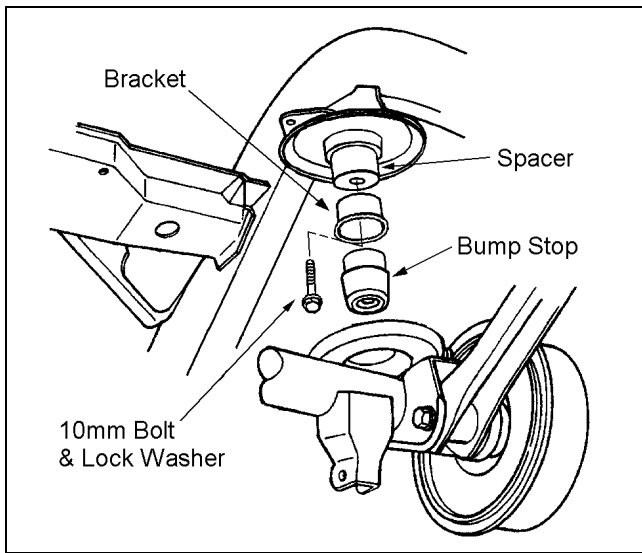

Figure 14
- 2) Insert Rancho spacer 420027 and reinstall the bracket with the 10mm hardware from kit 860161. Insert the bump stop into the bump stop bracket. See figure 14.